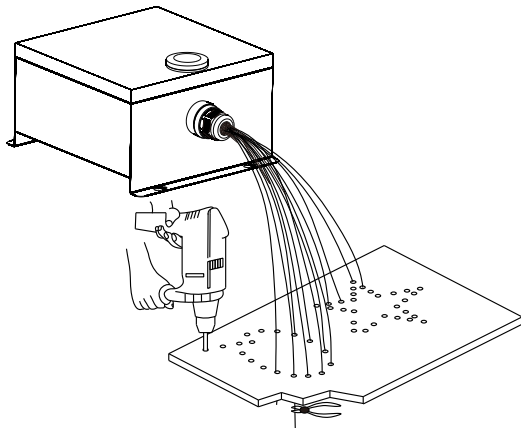

Fig. 2
- (1) Drill holes on the installing board according to the design. Then insert the fiber optic string into holes and fix it with epoxy glue. Trim the end of the fiber string to be flush with the board or at a required length. Fasten the other end of the fiber string to a harness and insert the harness into PG Connector and Fiber Connector. Apply the hot knife to cut fiber end flush with the Fiber Connector. (See Fig.2).
- (2) Insert the finished Fiber Connector into the Fixing Flange and screw tightly the Screw.